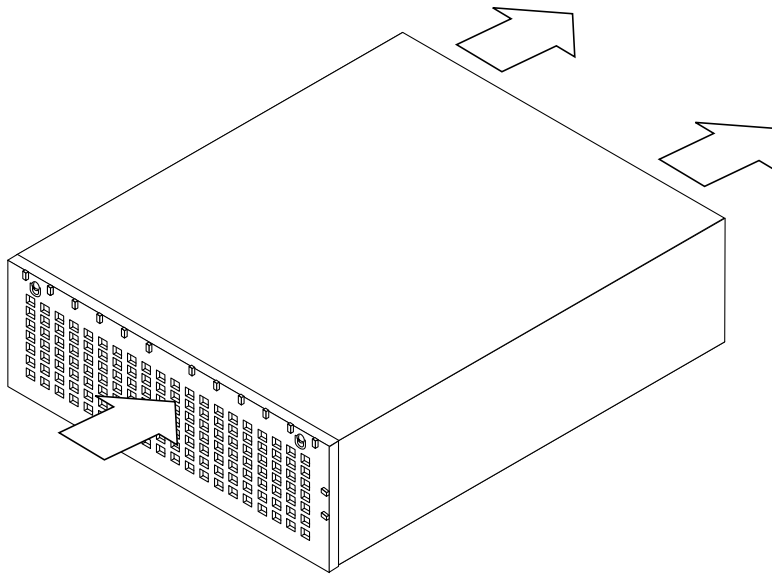

FIGURE 1-6 Airflow Requirements (Front and Rear)
2. The air is drawn through the front of the enclosure and expelled from the rear of the enclosure (FIGURE 1-6).